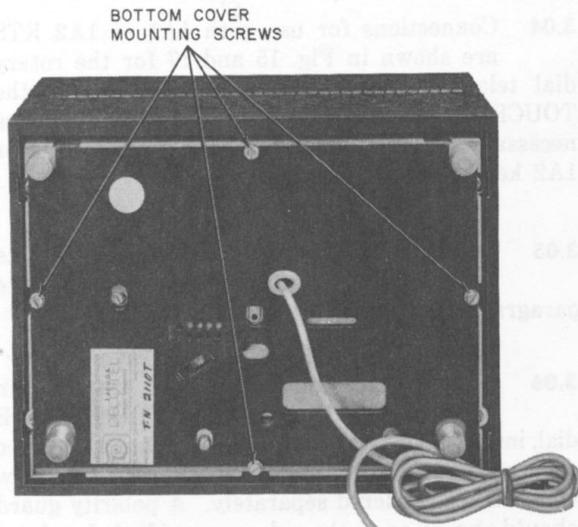

Fig. 4—881A100 or 2881A100 Telephone Set, Bottom View
- (1) Remove four bottom cover mounting screws from the bottom of the telephone set and remove the bottom cover (Fig. 4).